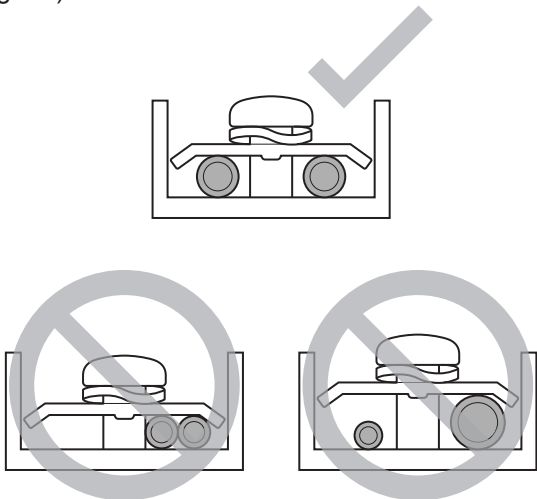

Fig. 47 Power Cord Connection of cascade system
- Do not connect two power cords with different diameters to the same power supply terminal (may cause overheating of wires due to loose wiring) (Fig. 47).